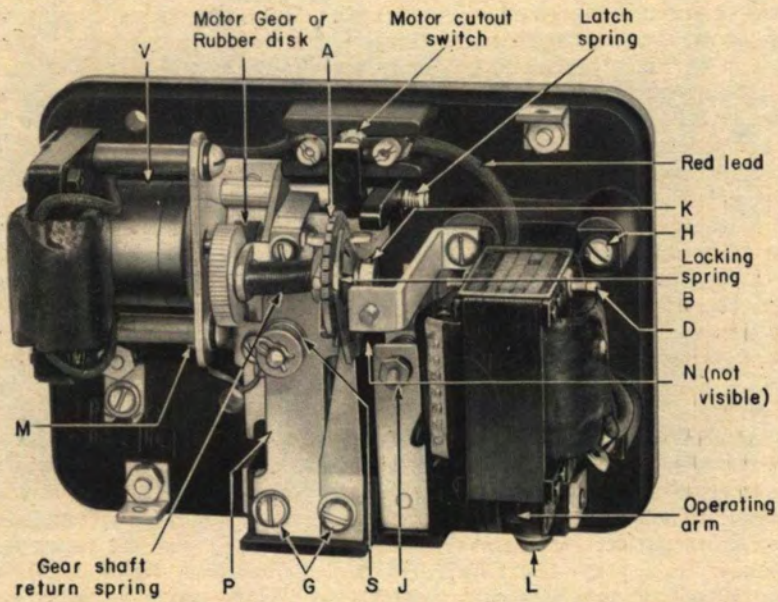
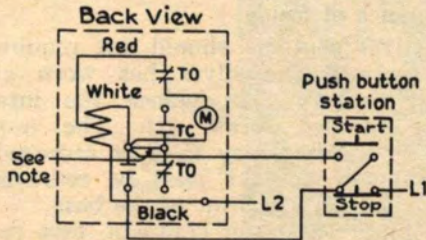

Fig. 2. Another View of Relay Shown in Fig. 1
Fig. 3. Connections with Momentary-contact Push-button Station
The CR2820-1099 time-delay relay is driven by a synchronous motor suitable for use on alternating current only. When the relay is energized, the solenoid engages the motor with the contact-operating mechanism; a tap on the solenoid provides the correct voltage for the motor. After the predetermined time interval has elapsed, the normally open contact (TC) closes, the normally closed contact (TO) opens (See Fig. 3 and 4), and the motor cutout switch (TO) disconnects the motor. The contacts remain in the timed-out position until the relay is de-energized, at which time the solenoid drops out and the contacts are reset instantly to their original position.
An interlock contact (J), Fig. 2, is provided to establish a holding circuit when the relay is energized from a momentary-contact push button as shown in Fig. 3. This contact is normally open, and closes when the solenoid is energized.
NOTE: If the relay studs in Fig. 3 and 4 are connected by a punching, as indicated, the punching should be removed unless the wiring diagram shows these studs connected together.